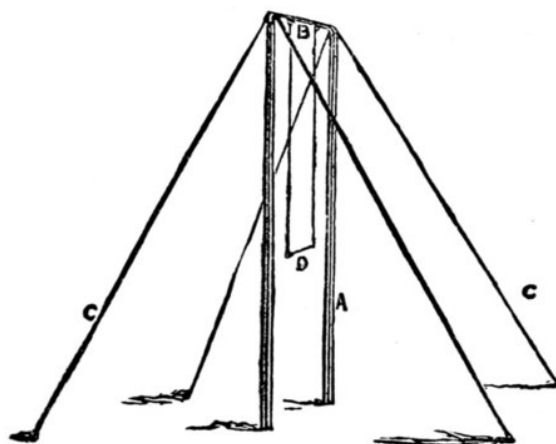

Fig. 4
**Fig. 4** represents a very simple way of forming the uprights for a swing. It consists of two scaffold poles, or more correctly speaking, Norway spars (the same as used for ladder-making when they have been sawn down the centre). They may be procured at any ladder-makers, with the bark taken off and properly trimmed. The top should be 2 in. in diameter, and the bottom 3½ to 4 inches. The cross-piece (B) to which the ropes are fastened is formed of 2-in. gas barrel, *i.e.* iron tubing, and is measured by the calibre or inside diameter, therefore 2-inch gas tubes will measure about 2½ inches outside diameter. The elbows, which are bought already screwed, would have to be fitted with iron staples riveted to them, to fasten the wire rope to, and two hooks also riveted through the tube, made of ½-in. diameter iron, 18 inches apart, for attaching the swing.
The four stays (F F F F) and stakes (G G G G) just the same as described in Fig. 4.